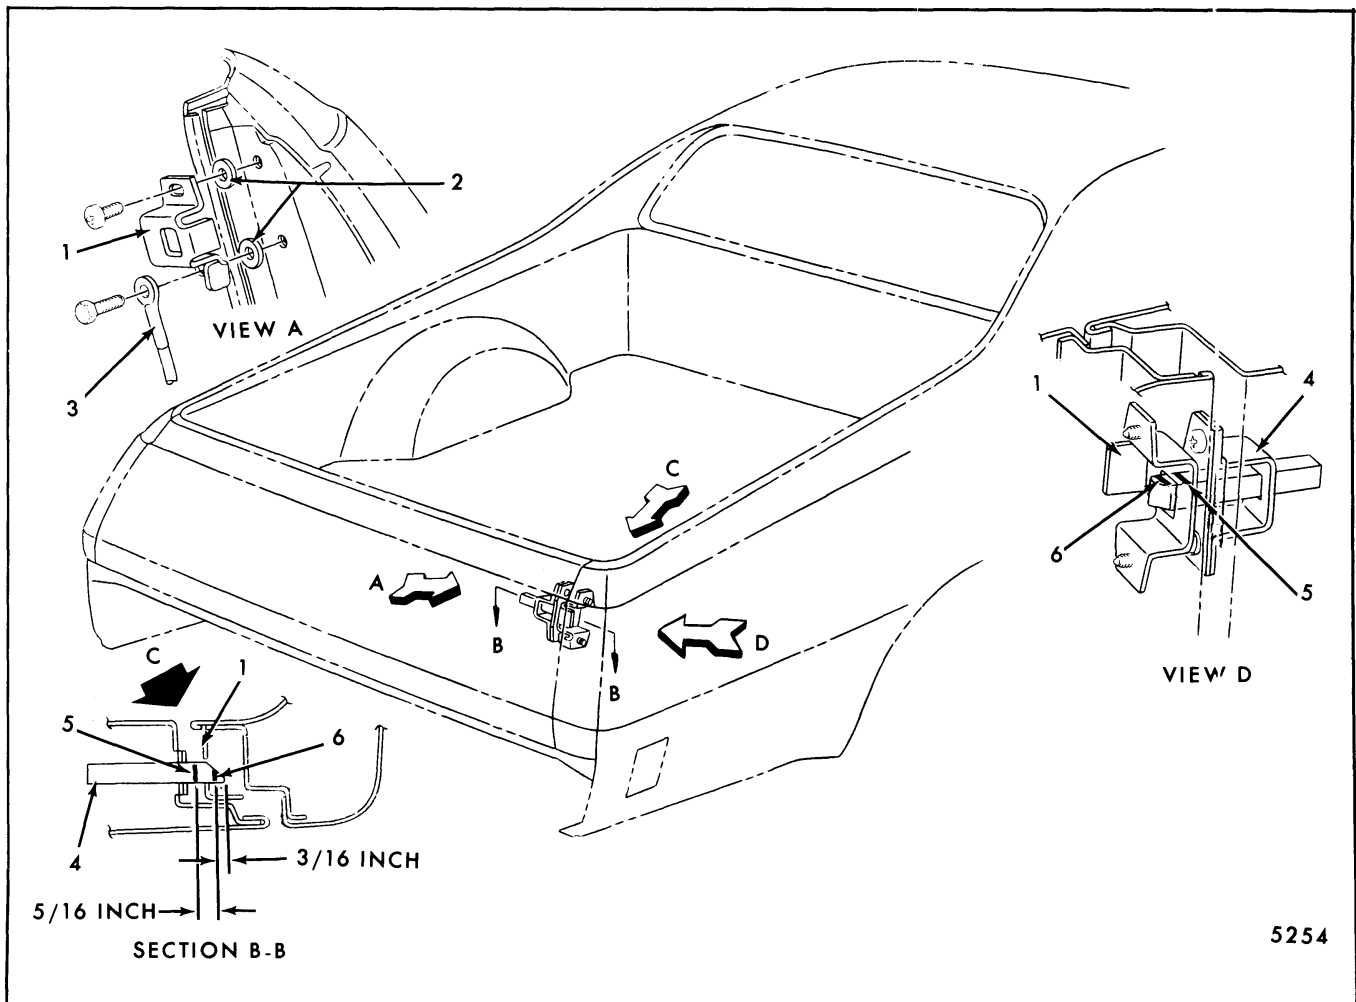

Fig. 7-81-Tail Gate Latch to Striker Adjustment
2. Dimensional specifications for use of latch striker spacers are found in Figure 7-81.
- b. To determine if tail gate latch striker spacers are required, mark the latch as indicated in Section B-B, Figure 7-81 with a bright colored crayon then slam gate closed to insure full latch to striker engagement.
- c. If marks "A and B" are visible when viewed through gap between back body pillar and tail gate pillar (Arrow C, Fig. 7-81), install a spacer (1/16" thick plated flat washer - 1/2" I.D.) between striker and pillar at striker attaching bolt locations. Add additional spacers as required until only mark "B" is visible inboard of striker.